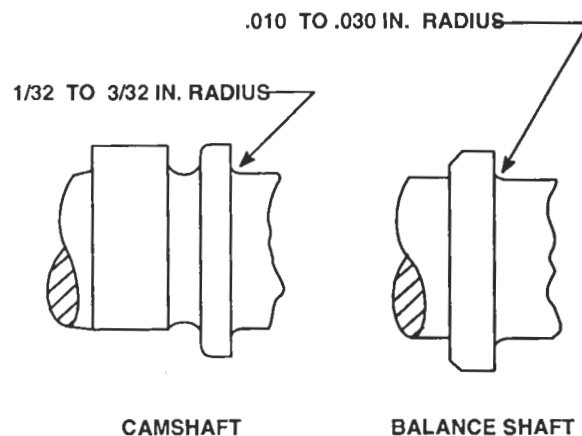

Figure 8. Camshaft and Balance Shaft Journal Fillets
1. Leave a .031 to .094 inch radius between the bearing surface of the thrust collar shoulder and the bearing surface of the camshaft (Figure 8.)